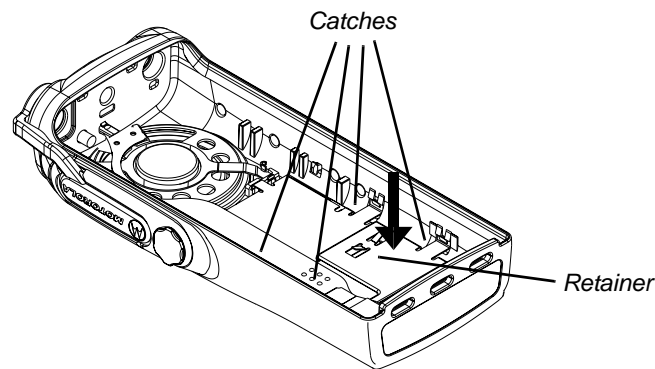

Figure 3-8: Lock Retainer Catches to the Radio's Body
4. Align the notch in the speaker at the twelve o'clock position with the tab on the front cover as shown in Figure 3-8.